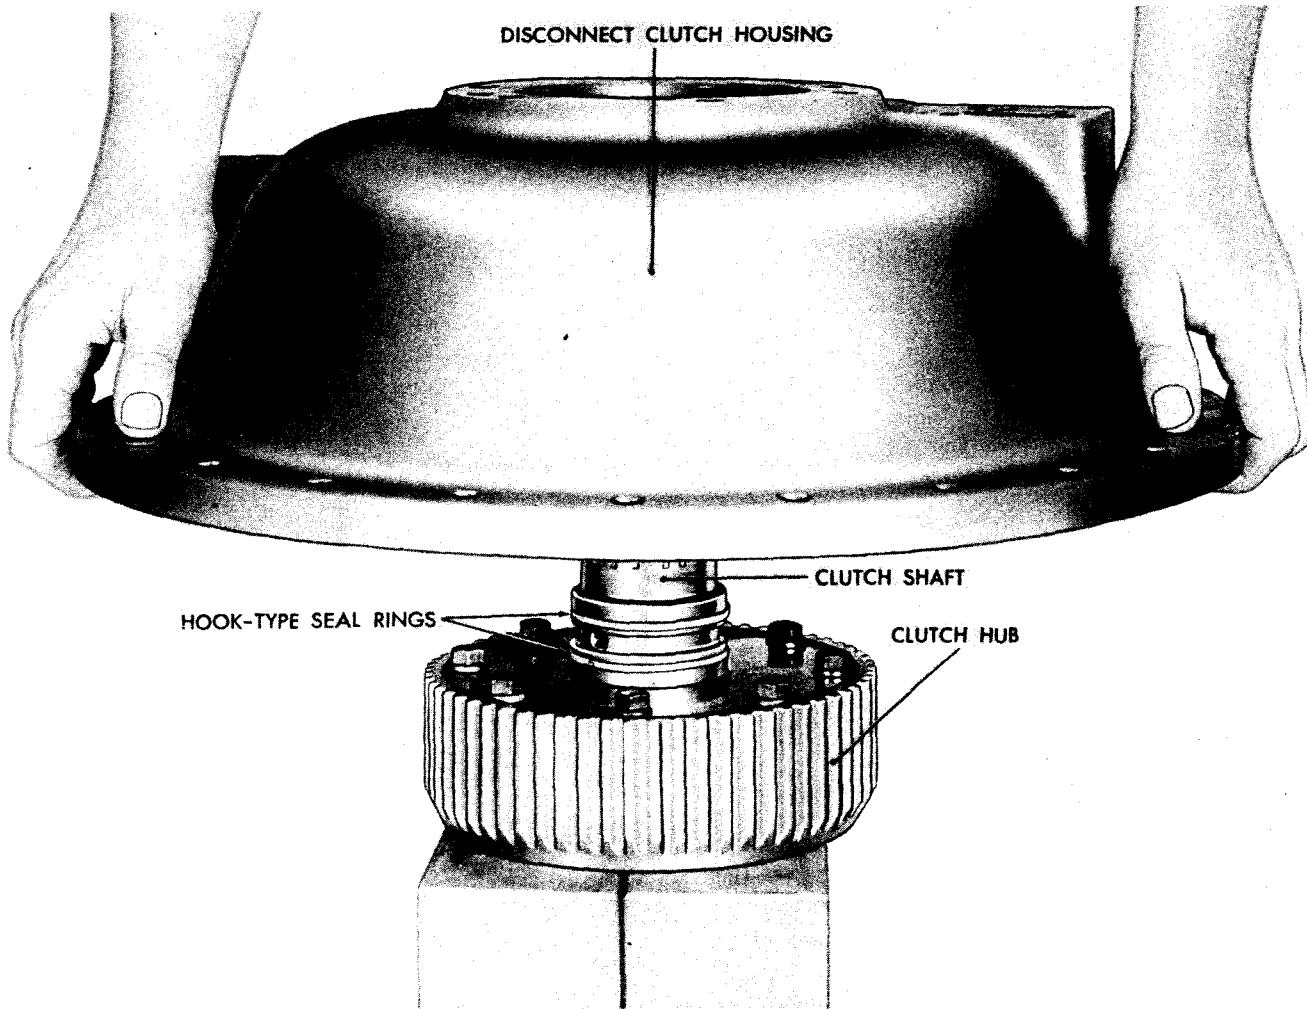

Fig IX-15. Installing disconnect clutch housing on clutch shaft and hub
(10) Remove the two hook-type seal rings (fig. IX-15).
(11) Remove eight bolts and lockwashers from the clutch shaft. Remove the clutch hub (fig. IX-15).
(1) Install the clutch shaft into the clutch hub (fig. IX-15) and install eight 3/8-24 bolts and lock washers. Torque the bolts 33 to 40 pound-feet.
(2) Install the two hook-type seal rings (fig. IX-15).
(5) Lower the disconnect clutch housing onto the clutch shaft (fig. IX-15).
(6) Press the ball bearing into place against the shoulder on the clutch shaft (fig. IX-15).
(7) Install the bearing retainer and gasket. Secure it with six bolts and lock washers.
(8) If the hydraulic rear-disconnect assembly is to be installed on the converter while the converter is out of the drive line, install an eyebolt in the rear end of the clutch shaft. If the converter was not removed from